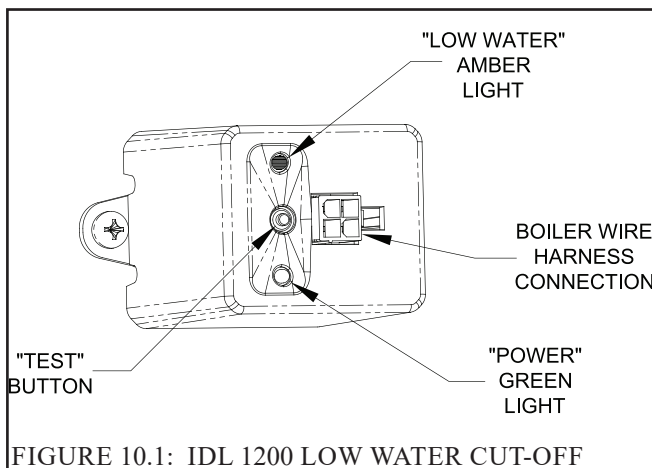

FIGURE 10.1: IDL 1200 LOW WATER CUT-OFF
- 3) LWCO Probe Check - Turn on power to the boiler. Both the green power light and the yellow low water light should come on (Figure 10.1)
17) Check LWCO Operation - Push and hold the LWCO TEST button while the boiler is firing (Fig 10.1). The burners should shut down and the yellow light illuminate on the LWCO. Upon releasing the TEST button, the yellow light should go off and the boiler fire.